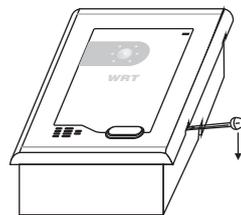

figure3
3. Prize up the cover with flat tool. (figure3)